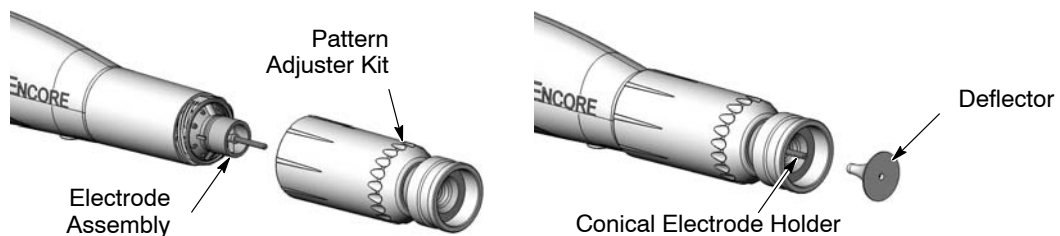

Figure 4-8 Pattern Adjuster Kit Installation
3. See Figure 4-8. Install the integral conical nozzle onto the electrode assembly and screw the nozzle nut clockwise until finger-tight.